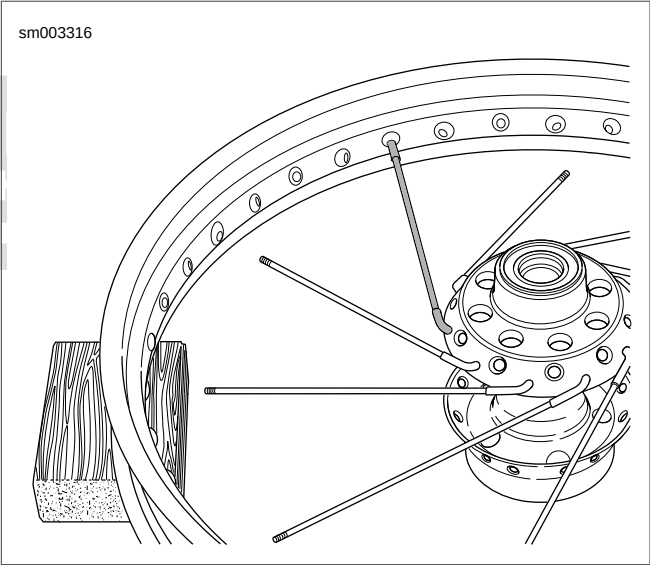

Figure 2-45. Lower Row into Rim
3. See Figure 2-45. Using any **lower** row spoke, place the first spoke into the rim hole, angled to correctly accept the spoke, on the upper half of the rim centerline.